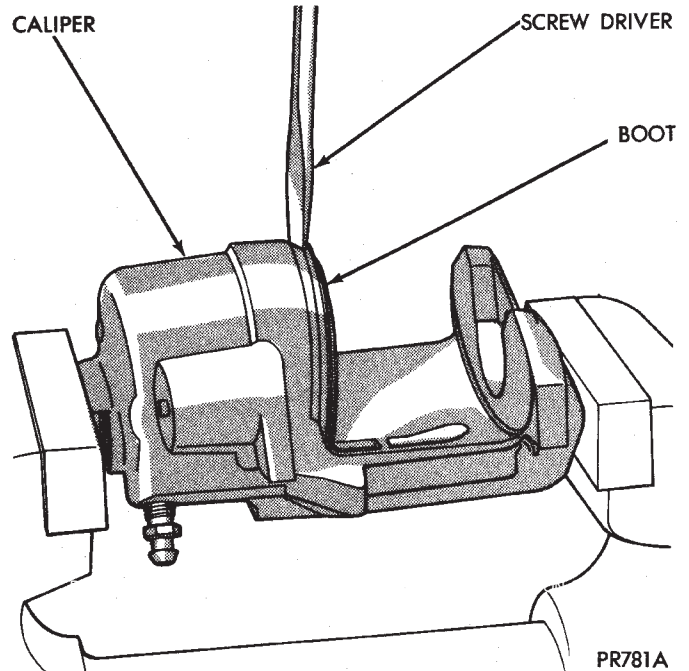

Fig. 160 Removing Caliper/Piston Dust Boot
(5) To disassemble caliper, mount in a vise equipped with protective jaws.
(6) Remove guide pin sleeves and guide pin bushings. See Removing Guide Pin Bushings in the caliper disassembly section of this manual.
(7) Remove the piston dust boot from the caliper and discard (Fig. 160).